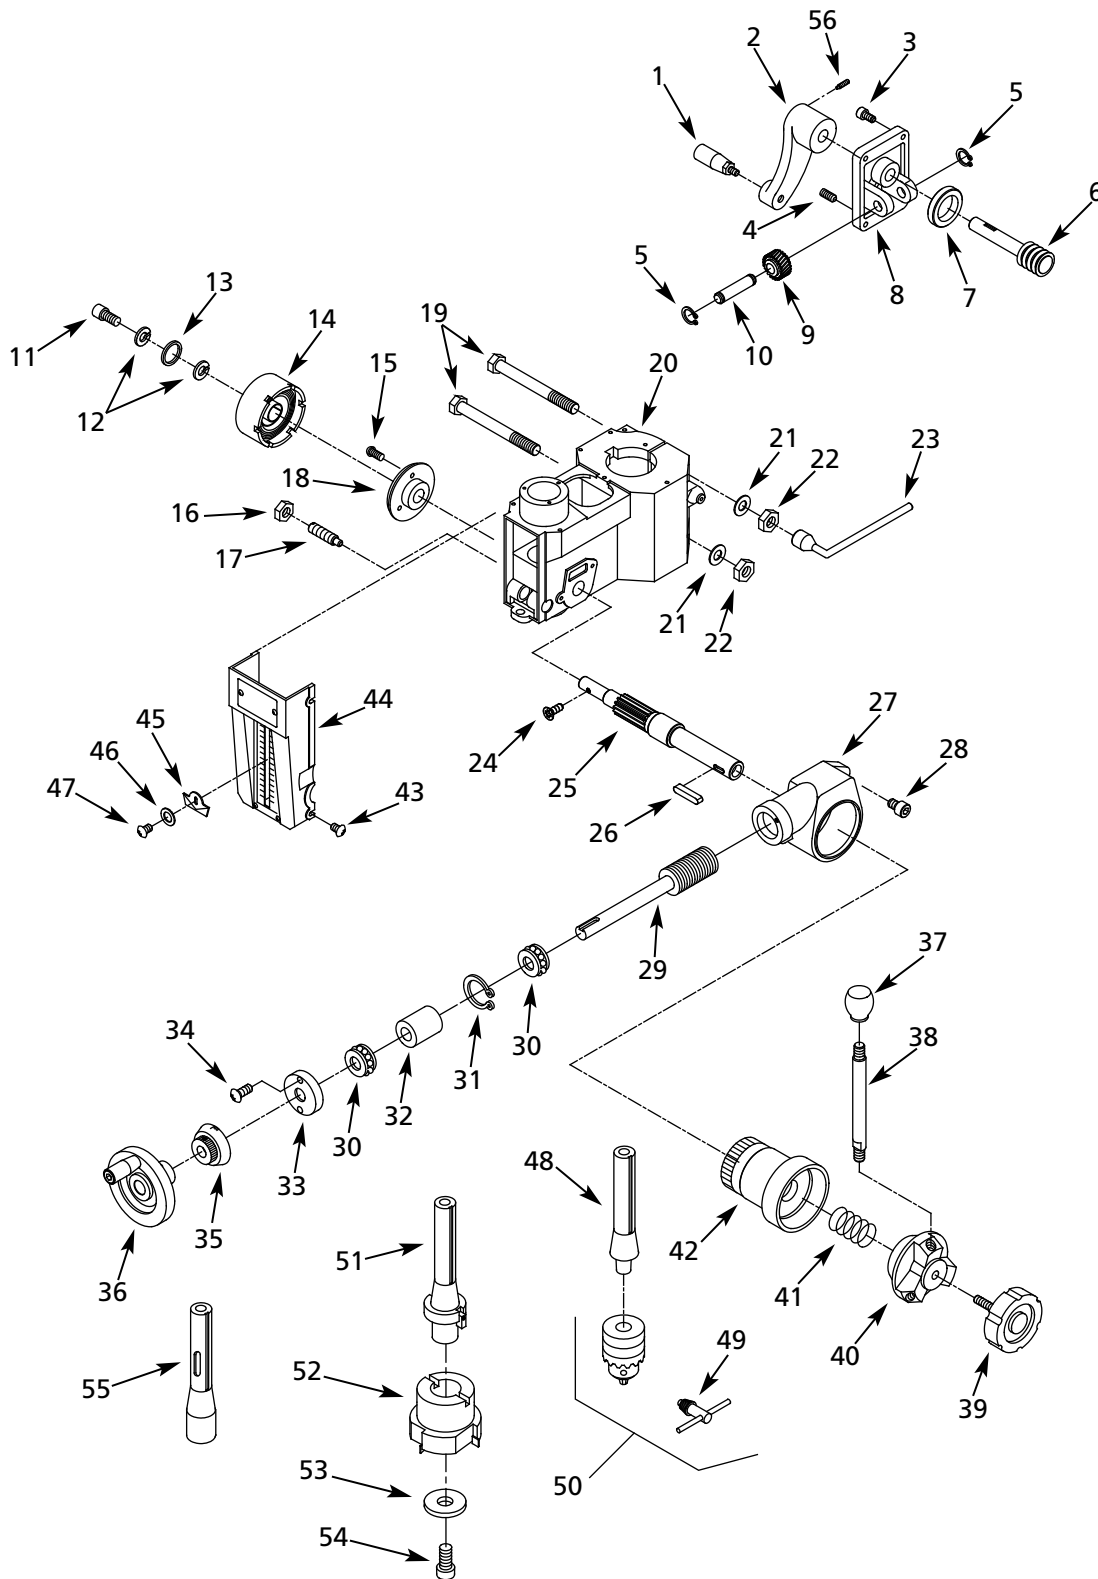
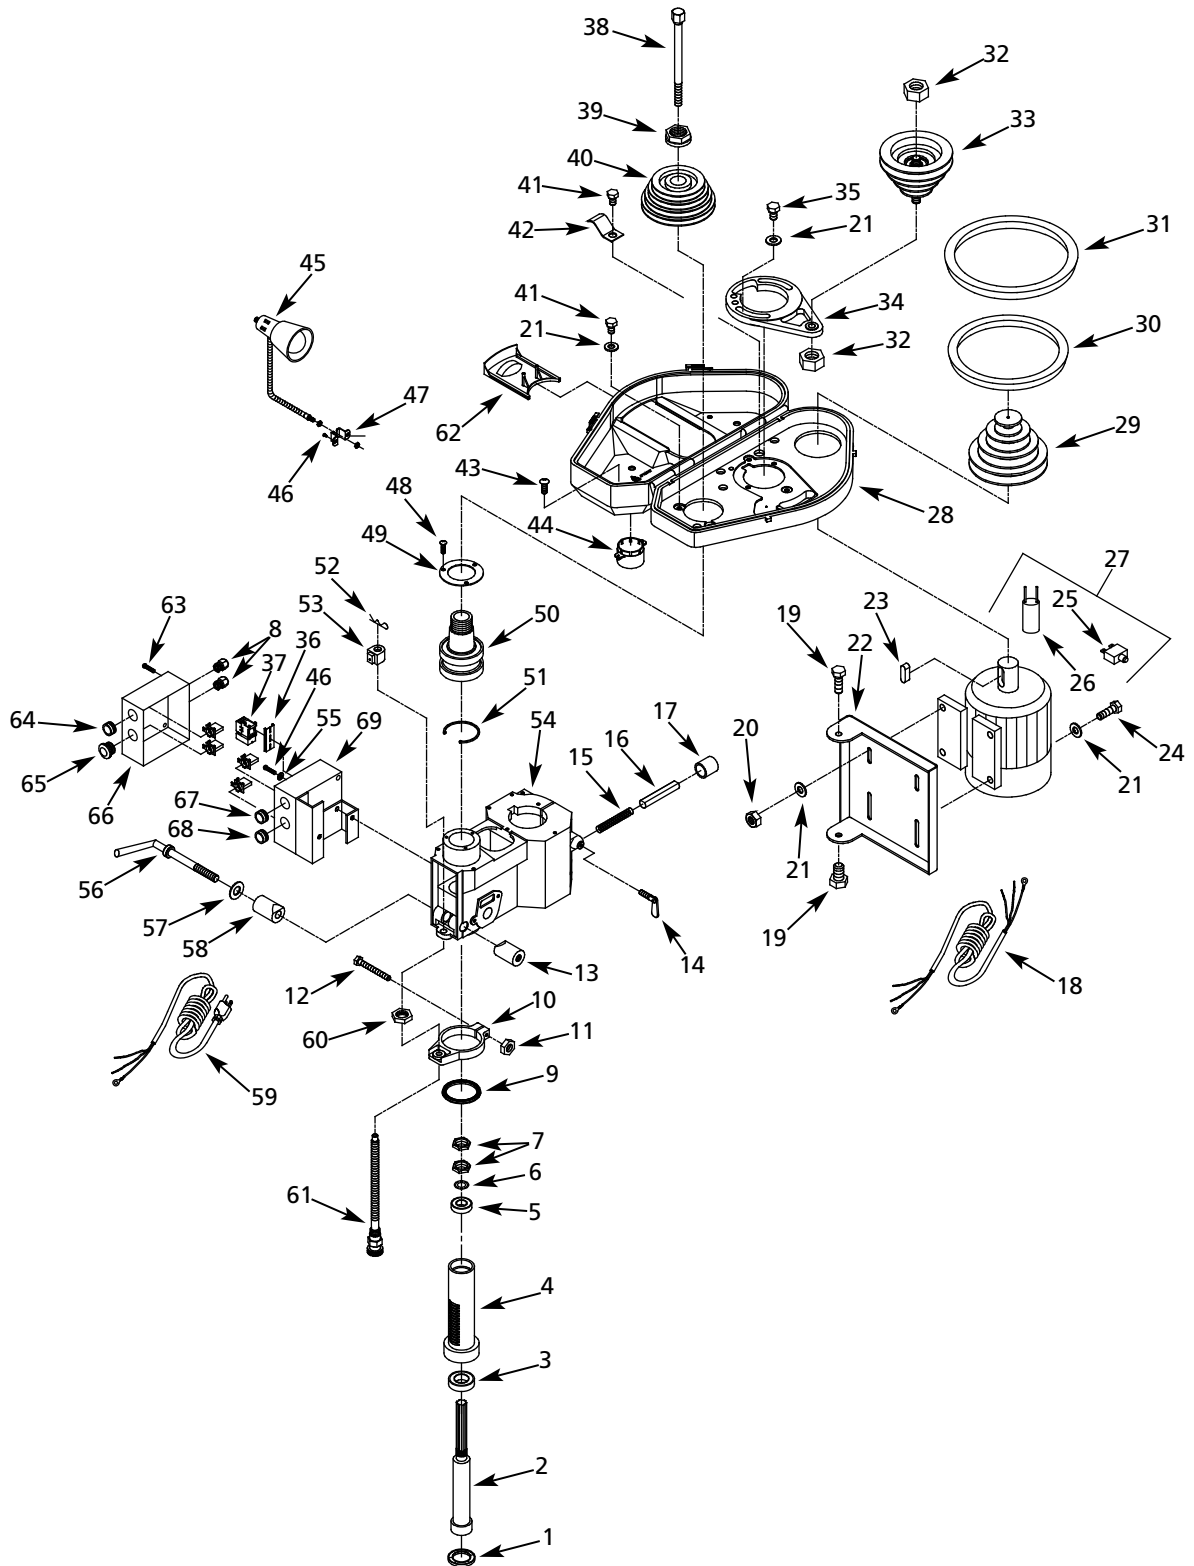

Figure 6 - Repair Parts Illustration for Head
Figure 7 – Repair Parts Illustration for Head
Depth of cut is shown on depth scale and indicated by depth indicator (Fig. 6, Ref. No. 45).
Refer to Figure 6 and 7, pages 8 and 10.
To replace return spring, push spindle to fully up position and lock it in place by tightening quill lock handle (Fig. 7, Ref. No. 56).
Loosen spring cover bolt (Fig. 6, Ref. No. 11) slowly and carefully rotate spring and cover clockwise to relax spring tension.
Remove spring cover bolt and washers (Fig. 6, Ref. No. 11, 12 and 13). When tension is released, rotate spring and cover clockwise to release spring from mounting screw.
Remove spring and cover. Place new spring over pinion shaft and slide slot at end of spring over mounting screw (Fig. 6, Ref. No. 24). Press spring and cover against head casting.
Test spring tension by pulling down on crank handle (Fig. 6, Ref. No. 38). Adjust spring tension as needed.
**Overtightening spring causes quill to return with excessive force damaging quill and rubber bumper (Figure 7, Ref. Nos. 4 and 9).**
Refer to Figures 6, 7 and 8, pages 8, 10 and 12.
1. Apply five to six drops of oil on splines at the top of spindle (Fig. 7, Ref. No. 2).
2. Oil gear rack on back of quill where pinion shaft (Fig. 6, Ref. No. 25) engages quill (Fig. 7, Ref. No. 4).
3. Oil depth stop lead screw (Fig. 7, Ref. No. 61).
4. Apply bearing grease to rack (Fig. 8, Ref. No. 14) and pinion shaft (Fig. 6, Ref. No. 25). Remove pinion knob and handle base (Fig. 6, Ref. Nos. 39 and 40) to expose pinion shaft.